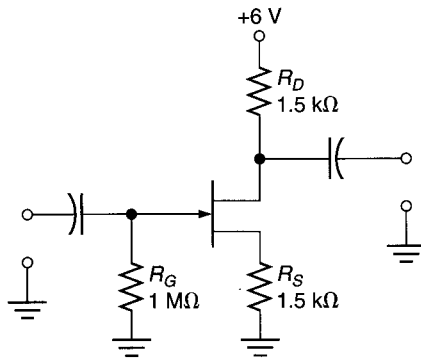

FIGURE 12.59
22. Determine the ranges of  $V_{GS}$ ,  $I_D$ , and  $V_{DS}$  for the circuit shown in Figure 12.59. Assume the JFET is a 2N3437 (which is described in Problem 11).